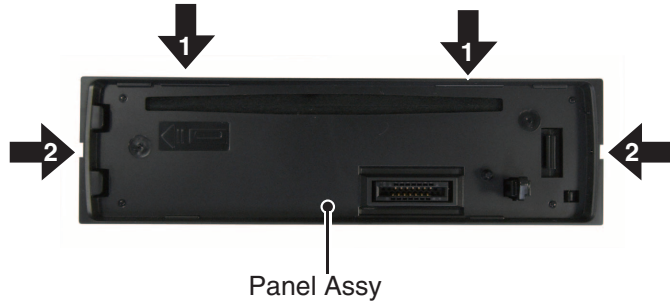

Fig.1
● Removing the Panel Assy (Fig.1)
3. Hold the PU at the position A as shown in Fig 1. Slide the PU as far as possible toward the holder in the feeding screw so that a joint on the outer end of the feeding screw is loosened.